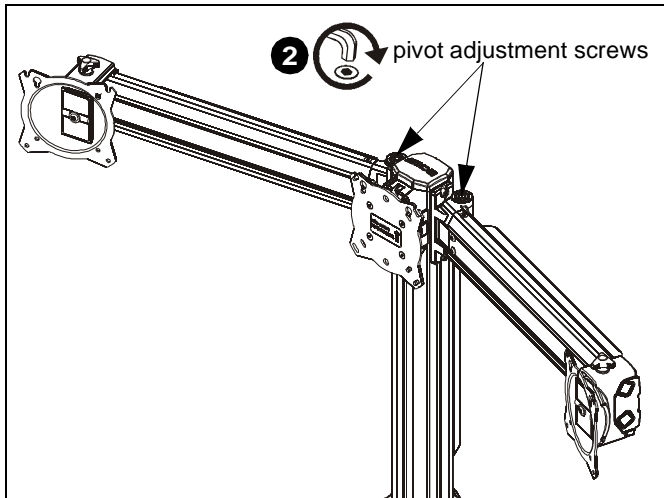

Figure 17
- When arms are at desired pivot position, lock pivot position by tightening pivot adjustment screws using 5/16" hex key (Q). (See Figure 17)